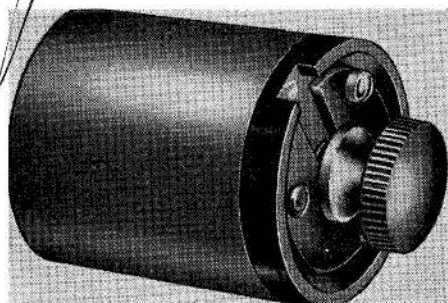

Fig. 1. Datum selector resistor unit
1. Datum selector resistors (*fig. 1*) are plug-in units designed to fit to Ultra jet-pipe temperature control amplifiers. When fitted to an amplifier the unit specifies the datum temperatures at which the amplifier controls. Up to three datum temperatures may be provided for, the selection of datums usually being made by means of remotely controlled relays. An amplifier may have several datum selector units with which it can be used, thus enabling the control range of the amplifier to be extended to suit a particular engine installation.